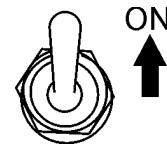

Figure 13. Operation Switch (ON)
4. Place the generator's operation switch (Figure 13) in the **ON** position.